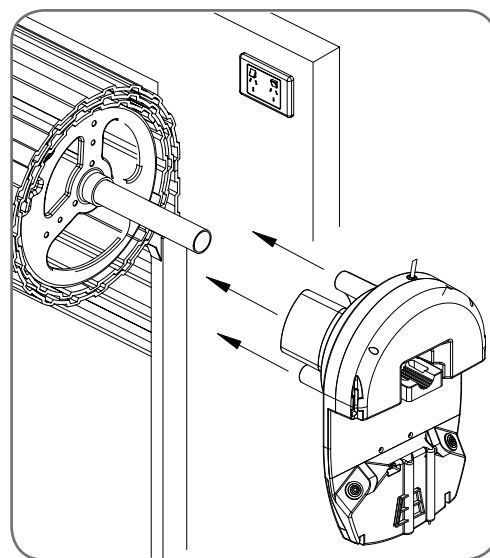

Fig 6.3
- Slide the opener over the door axle and into the drum of the door (Fig. 6.3).